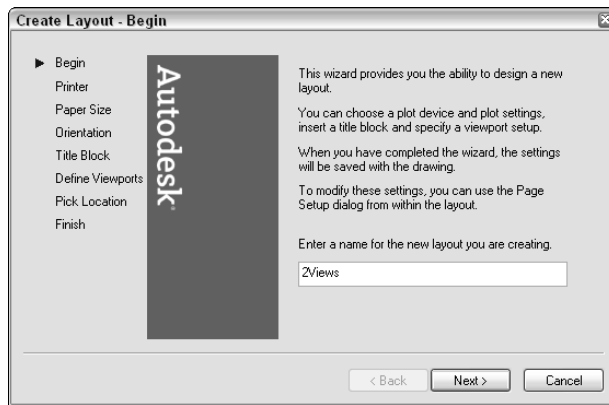

**Figure 17-3:** The first screen of the Layout Wizard.
1. Choose Tools ⇨ Wizards ⇨ Create Layout. You see the wizard screen shown in Figure 17-3, where you name the layout. This name will appear on the Additional Layouts menu on the status bar or on the layout tab at the bottom of the drawing area.